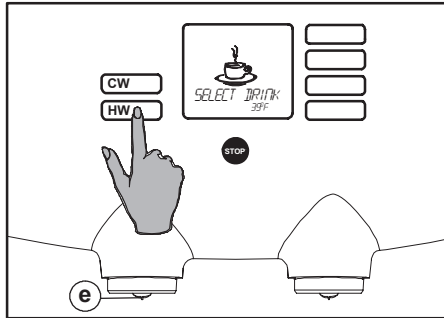

Fig. 19 Hot water button/Cold water button*
2. Press the selection button for hot water (fig. 19).
- Now the dispenser dispenses hot water from the left-hand outlet (fig. 19 e) and stops automatically after one cup has been dispensed.
4. Keep the selection button pressed until the desired quantity of hot water has been dispensed (fig. 19).